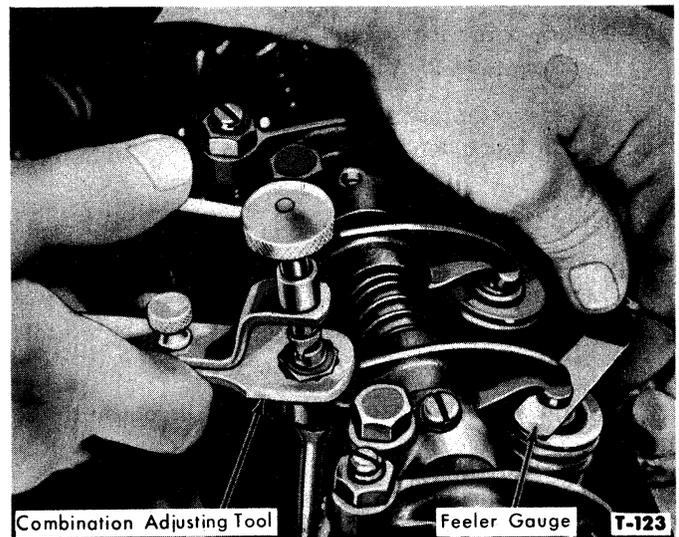

Figure 31—Adjusting Valve Tappet Clearance
13. Adjust the tappets to 0.014-0.016 inch clearance as shown in Figure 31 while the engine is running at idle speed.